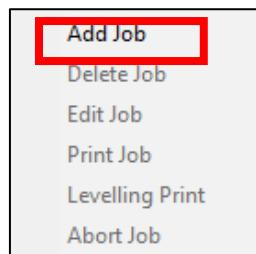

Figure 41: Context Menu
Step 4 After making the desired changes, *click* on the **OK** button to apply the settings (Refer to Fig 41).